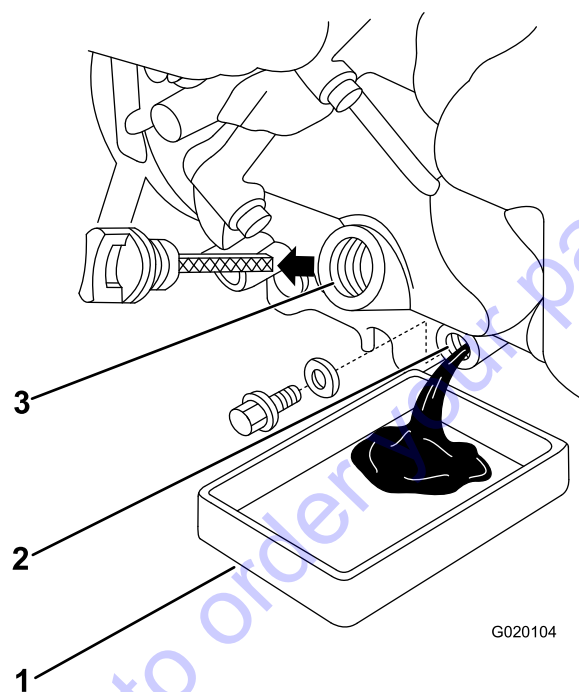

Figure 20
5. Remove the drain plug, and drain the oil from the engine (Figure 20).
7. Remove the dipstick and slowly pour approximately 80 percent of the specified amount of oil into the engine (Figure 20).